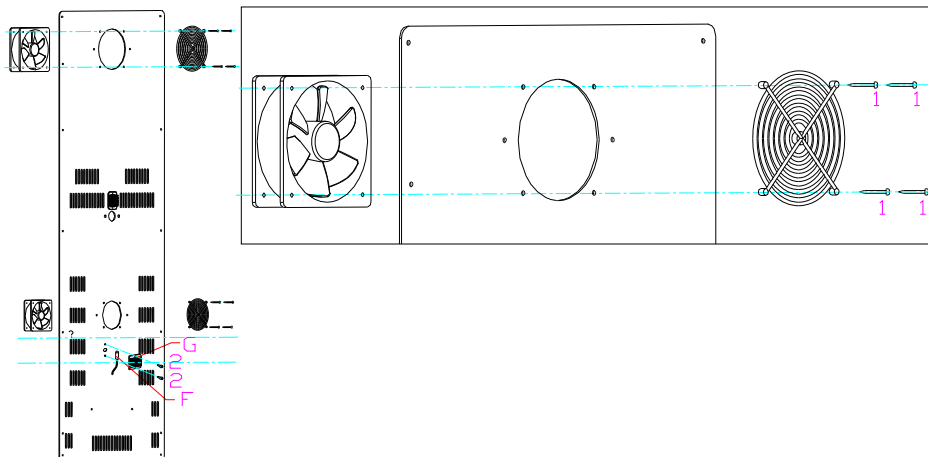
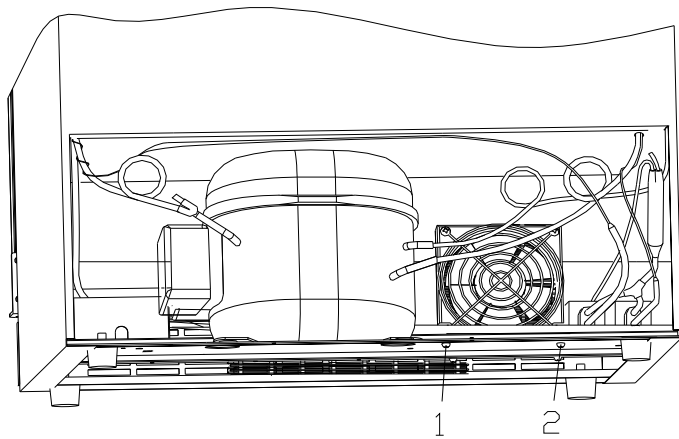
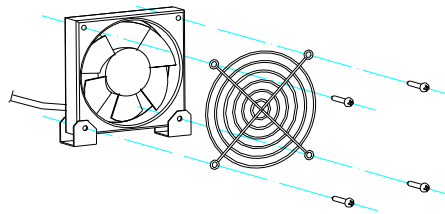

Fig. 5
Fig. 6
Fig.6.1
3>. Remove 4 fixing screws(1) of the fan,replace it with new one. ( Fig.5)
b. lean back the unit with angle 45°,remove the fixing screws(1,2) of the fan from bottom of the compressor branket with crossing head screwdriver.and replace it. (→5) (Fig.6 & Fig.6.1)
- 2 >.If the fan is damed seriously or brocken, replace it with the new fan(Fig.5)
The unstable temperature is caused by the evaporator fans cease, and it can be check by the below method: When the compressor is running, the light “Run” is on, the fan should be running, if the fan stop, check the whether is any fault in the fan or fan connection. If the fan is broken, replace it with the fan of the same model. (→5) (Fig.5 & Fig. 6 & Fig. 6.1 ).
1> . The LED display shows E1, and it is the upper zone's sensor open circuit fault, check the connection wire and the main board whether plough, if not , replace the sensor with the same module. See(→5) (Fig.5.)
2> . If the LED displays "E2" indicates upper zone's sensor short circuit fault, check the connection wire and the main board whether it is in good condition, if yes,the sensor should be replaced see (→5) (Fig.5)
3> . The LED display shows E3, and it is the middle zone's sensor open circuit fault, check the connection wire and the main board whether plough, if not, replace the sensor with the same module. See(→5) (Fig.5.)
4> . If the LED displays "E4" indicates middle zone's sensor short circuit fault, check the connection wire and the main board whether it is in good condition,if yes,the sensor should be replaced see (→5) (Fig.5)
5> . The LED display shows E7, and it is the lower zone's sensor open circuit fault, check the connection wire and the main board whether plough, if not, replace the sensor with the same module. See(→5) (Fig.5.)
6> . If the LED displays "E8" indicates middle zone's sensor short circuit fault, check the connection wire and the main board whether it is in good condition,if yes,the sensor should be replaced see (→5) (Fig.5)
2> . Remove the airduct board (→5) (Fig. 6& Fig. 6.1)
3> . Pull out 2 fixing plastic nails(2),the cover of the sensor will loose down,take away the sensor(F),replace it(→5) (Fig.5).